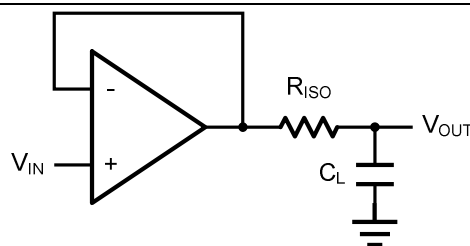
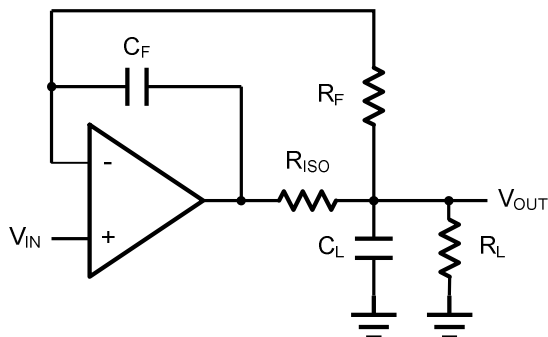

Figure 2 Indirectly Driving a Capacitive Load Using Isolation Resistor
Figure 3. Indirectly Driving a Capacitive Load with DC Accuracy
The HM6001 family is optimized for bandwidth and speed, not for driving capacitive loads. Output capacitance will create a pole in the amplifier's feedback path, leading to excessive peaking and potential oscillation. If dealing with load capacitance is a requirement of the application, the two strategies to consider are (1) using a small resistor in series with the amplifier's output and the load capacitance and (2) reducing the bandwidth of the amplifier's feedback loop by increasing the overall noise gain. Figure 2 shows a unity gain follower using the series resistor strategy. The resistor isolates the output from the capacitance and, more importantly, creates a zero in the feedback path that compensates for the pole created by the output capacitance.
The circuit in Figure 3 is an improvement to the one in Figure 2. R_F provides the DC accuracy by feed-forward the V_{IN} to R_L . C_F